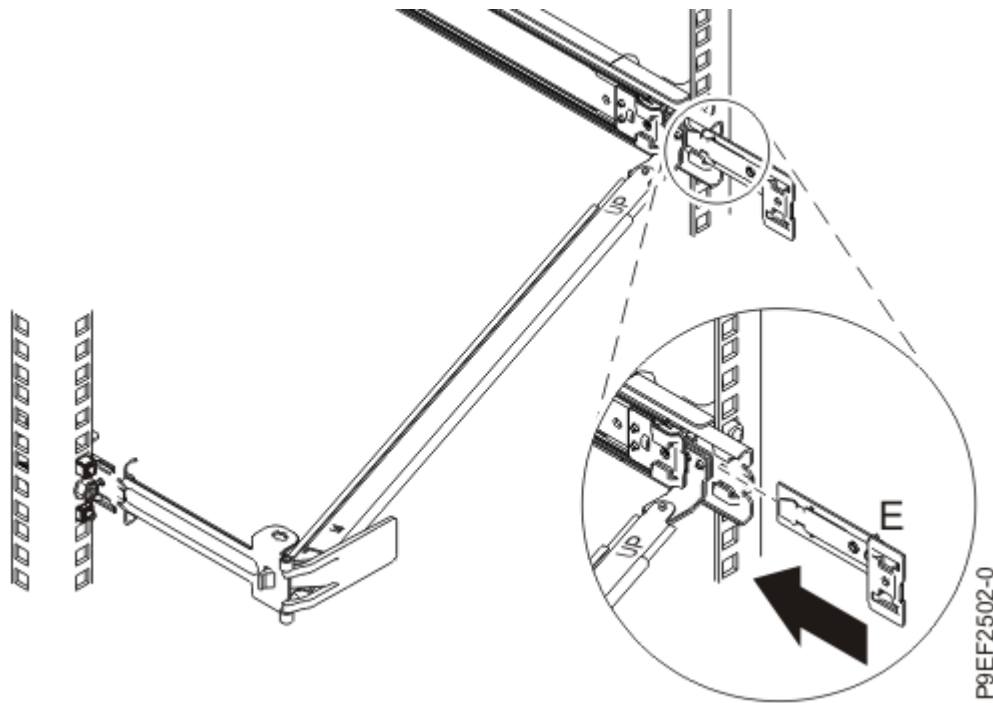

Figure 12. Installing the extension bracket into the slide rail
5. Slide the extension bracket **(E)** into the right slide rail until the spring-loaded pin snaps into place. For details, see Figure 12 on page 13.